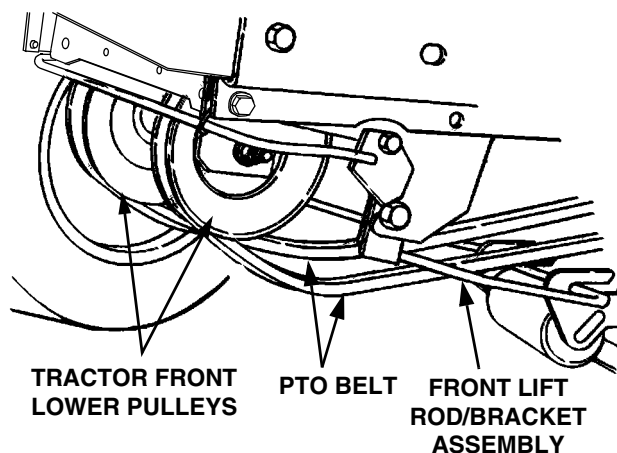

Figure 38
5. Pass the PTO belt downward, inside the tractor frame, until the belt is below the two tractor front lower pulleys and pull the belt clear of the tractor (See Figure 38).